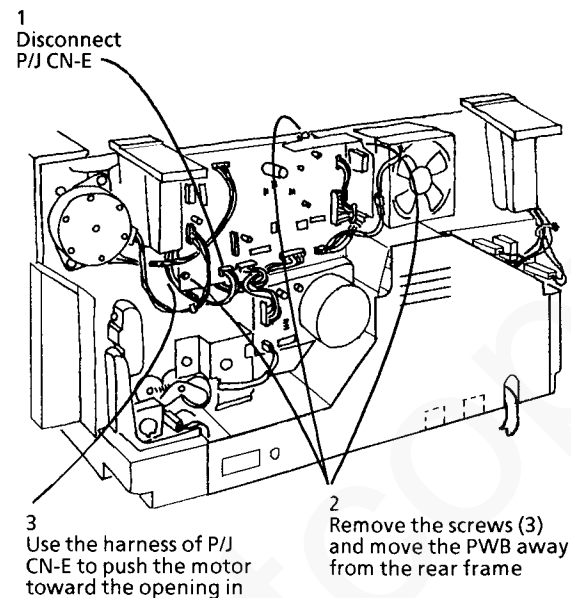

Figure 2. Preparing to Remove the Lens Drive Motor
7. Prepare to remove the Lens Drive Motor (Figure 2).